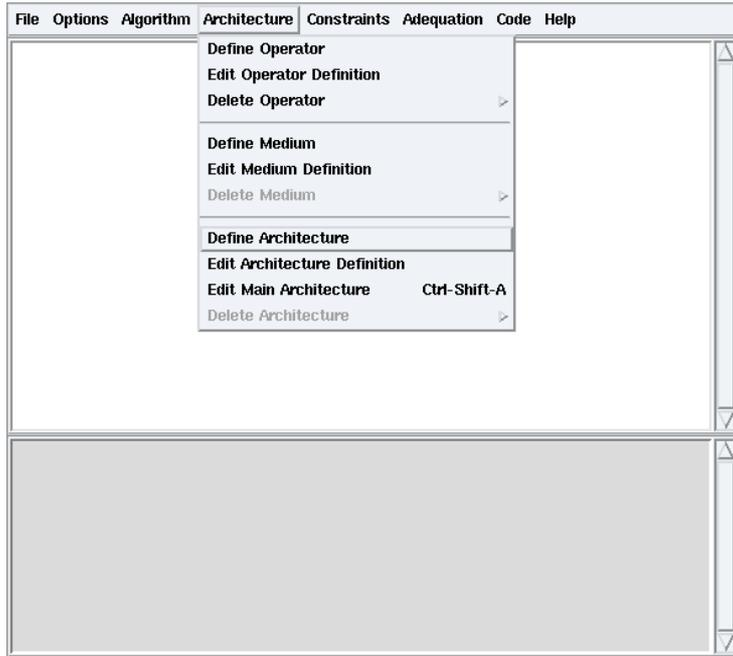

Figure 1.14: Architecture / Define Architecture
- from the main window: **Architecture / Define Architecture** (*cf.* figure 1.14) → dialog window: type `ArchiOneOperator` then click **OK** → definition window;
- from the main window: **Architecture / Define Architecture** (*cf.* figure 1.14) → dialog window `ArchiSamPointToPoint` → definition window;
- from the main window: **Architecture / Define Architecture** (cf. figure 1.14) → dialog window: `ArchiSamMultiPoint` → `ArchiSamMultiPoint` definition window;
- from the main window: **Architecture / Define Architecture** (cf. figure 1.14) → dialog window `ArchiRam` → `ArchiRam` definition window;